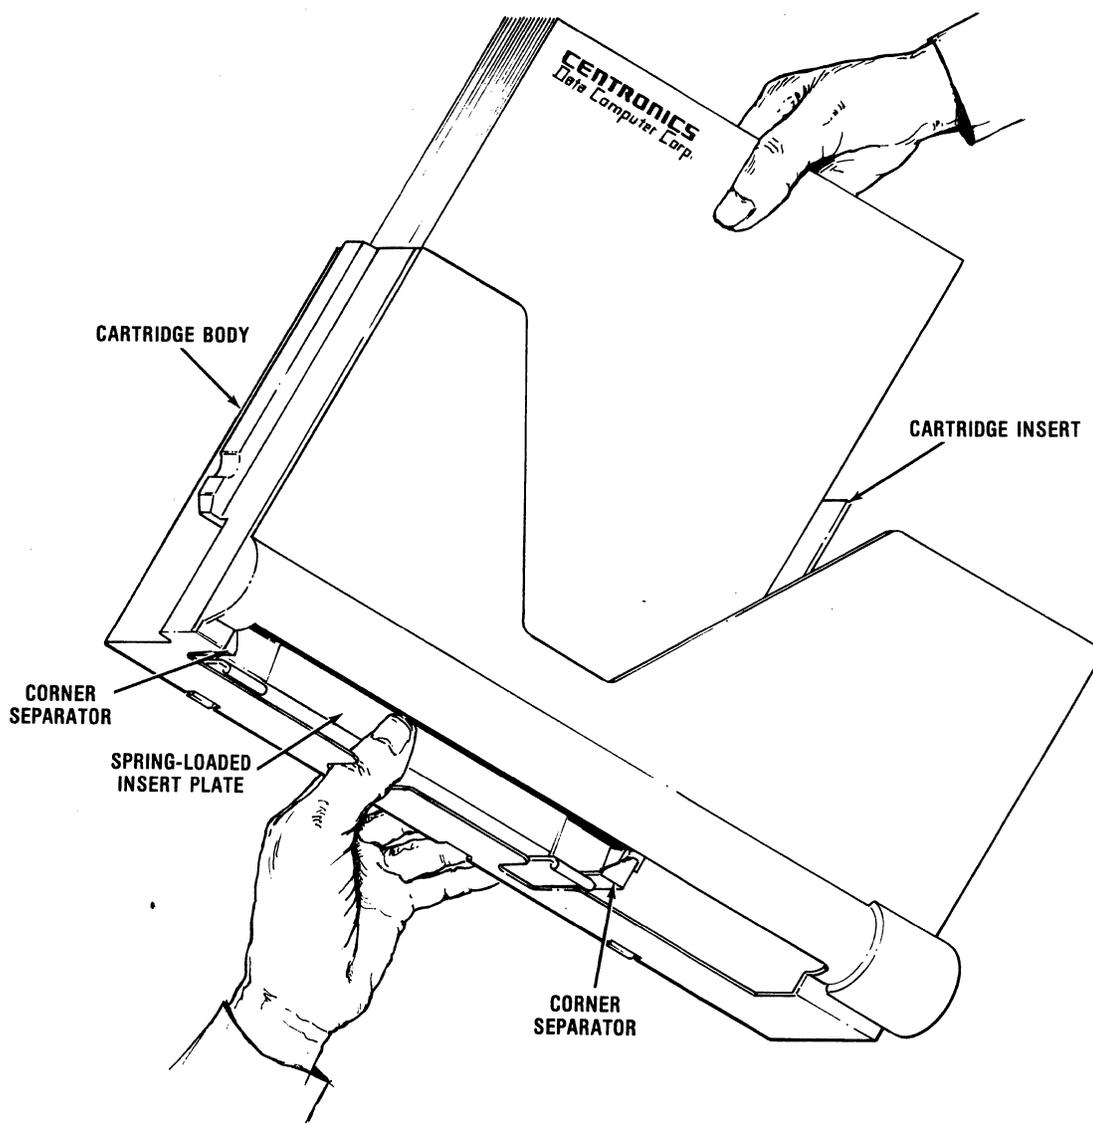

Figure 4-1 Sheet Loading
Refer to Figure 4-1 and perform the following steps to load sheets into the fixed-width cartridge:
11. Ensure all sheets are below the corner separators (refer to Figure 4-1), and against the base of the insert.